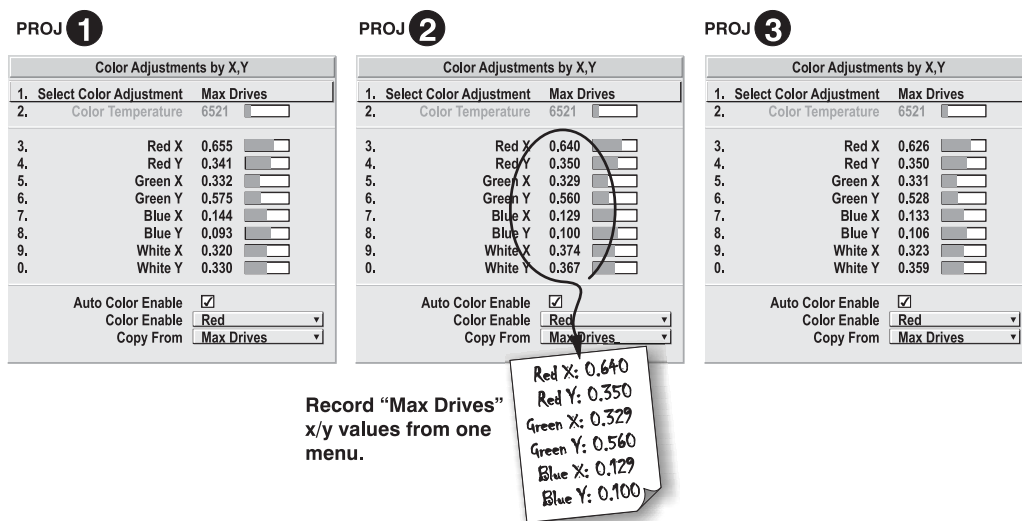

Figure 3.31. Jot Down a Set of "Max Drives" X/Y Values
4. Display the *Color Adjustments by X,Y* menus for all projectors. Each menu shows the x/y coordinates defining the "Max Drives" color gamut for this projector. Jot down the values shown in one (any) of the displays. See Figure 3.31. Or use the "Copy From" function to copy them into a "User" gamut in one projector.